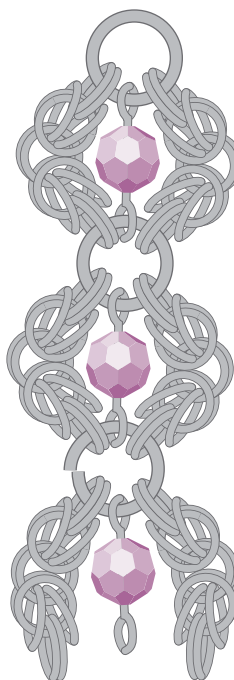

FIG. 6
7. Continue joining chain and bead components to make a Romanov chain (FIG. 6).